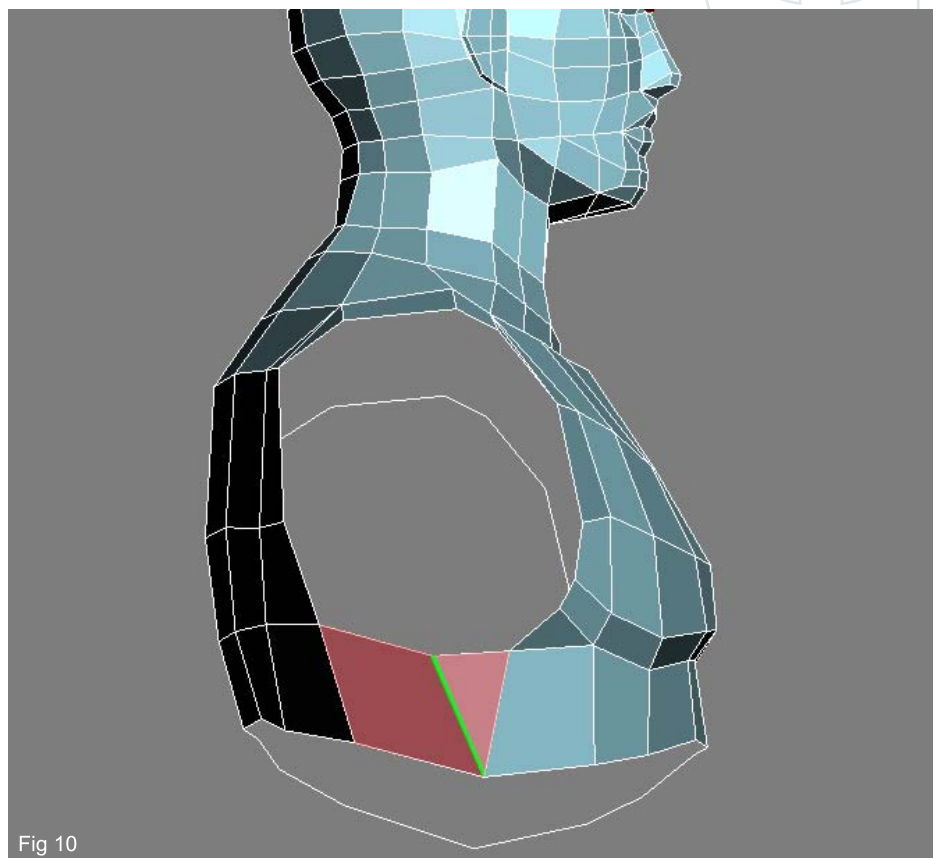

Fig 10
10. With this done it is time to seal the bottom of the arm area. In sub-object poly mode create a poly that bridges the gap and once this is done add a "Cut" and pull the new vert down slightly to help form a better shape under the arm (green line in Fig10).